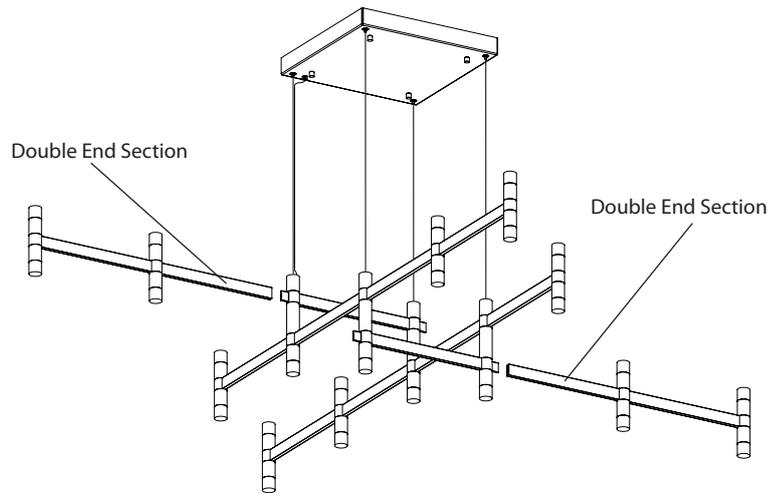

Figure 4
10. Install two Double end Sections to suspended Section 1 and 2 in positions shown (Figure 4) by connecting the plug (K), sliding bar over wing (L), securing in place with countersunk screws (M).